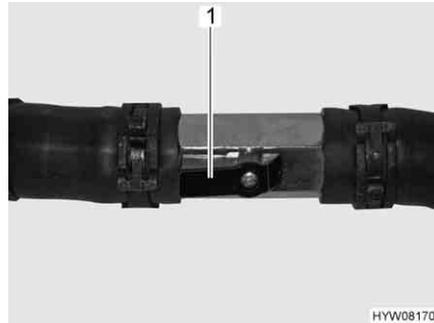

Fig. 204 Stopcock is open
- Set the lever (Fig. 204,1) of the stopcock parallel to the pipe (Fig. 204). The wider the stopcock is opened, the higher is the heat output.